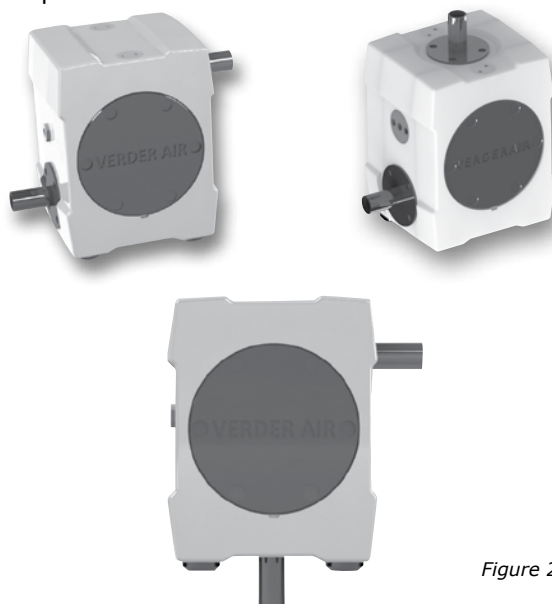

Figure 2
1. VA-P series of pump are having the suction and discharge connections integrated in the centre block. Both connections possibilities: horizontal and vertical are always available. VA-P pumps are delivered as standard with the horizontal connections open and the vertical connections plugged. See figure 2.